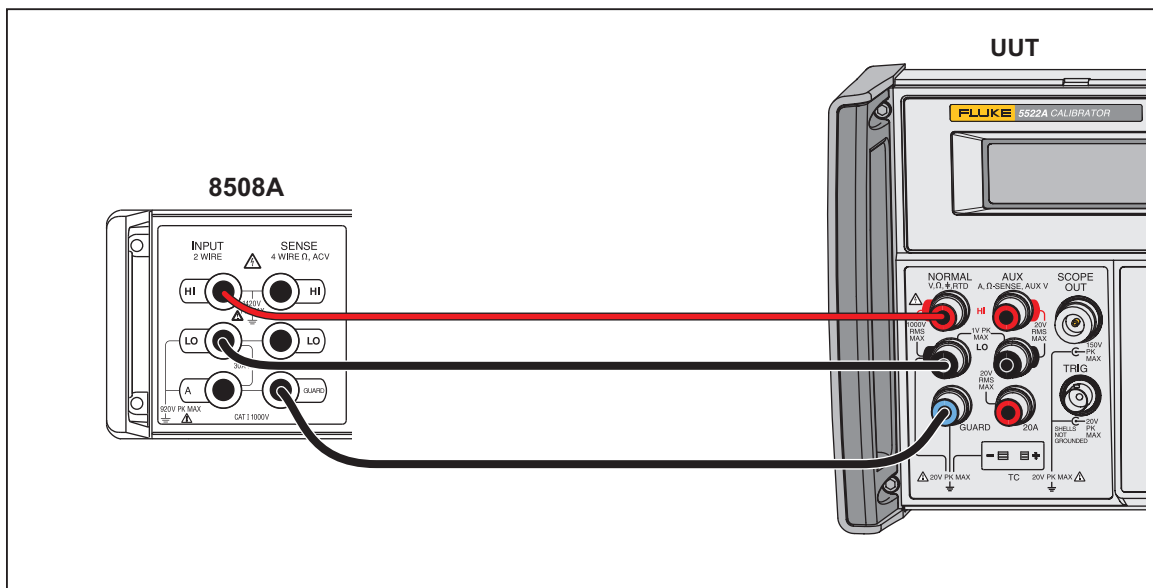

Figure 3-11. 2-Wire Resistance Connection
7. Connect the UUT to the 8508A in a 2-wire ohms configuration as shown in Figure 3-11.